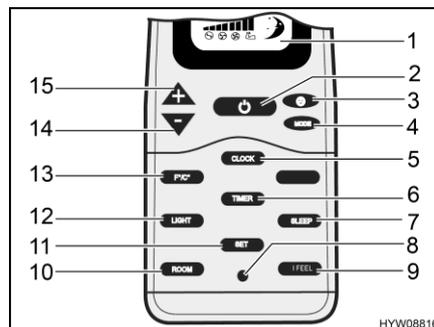
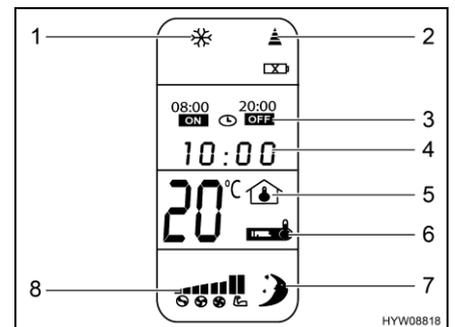

Fig. 82 Remote control (air conditioning unit)
Fig. 83 Digital display (remote control)
- If the air conditioning unit is in stand-by mode: Press the On/Off button (Fig. 82,2) on the remote control.
- Press the On/Off button (Fig. 82,2) on the remote control. The air conditioning unit switches into stand-by operating mode.
- Press the send button (Fig. 82,11) on the remote control. The settings are transmitted to the air conditioning unit in bundled form and confirmed with a signal tone.
- Press the time button (Fig. 82,5) until the time display (Fig. 83,4) flashes.
- Use the "+" (Fig. 82,15) and "-" (Fig. 82,14) buttons to set the desired time.